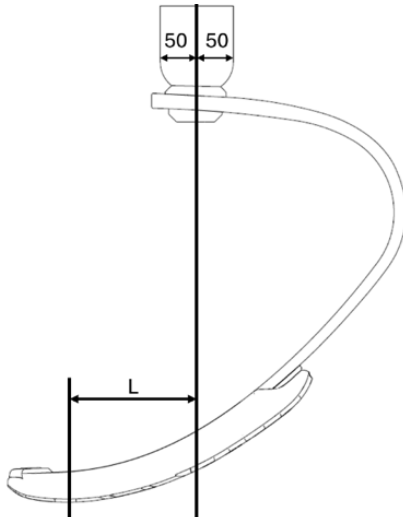

Figure 3: Dimension L, static structure
1. Place the foot module with its floor contact point in front of the reference line according to figure 3 and a dimension L of approx. 50-70 mm.